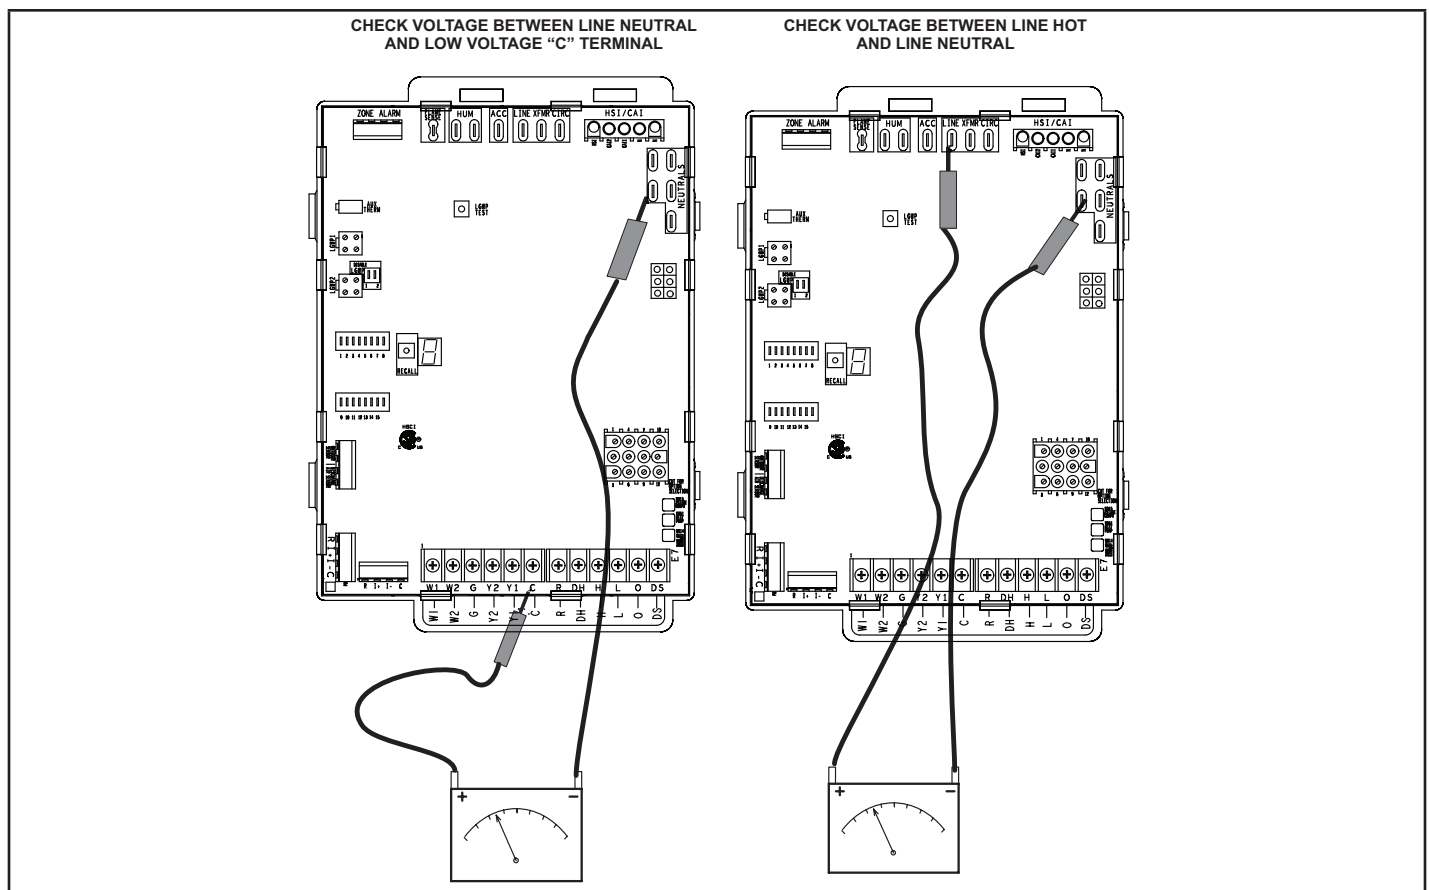

FIGURE 50
- 1 - Measure the AC voltage between Line Neutral (spade terminals) and "C" terminal (low voltage terminal block) on the integrated control. See FIGURE 50. A wide variation in the voltage between Line Neutral and "C" as a function of load indicates a poor or partial ground. Compare the readings to the table below. If the readings exceed the maximum shown in TABLE 31 make repairs before operating the furnace.
- 2 - In addition, measure the AC voltage from Line Hot to Line Neutral (spade terminals) on the integrated control. See FIGURE 50. This voltage should be in the range of 97 to 132 Vac.